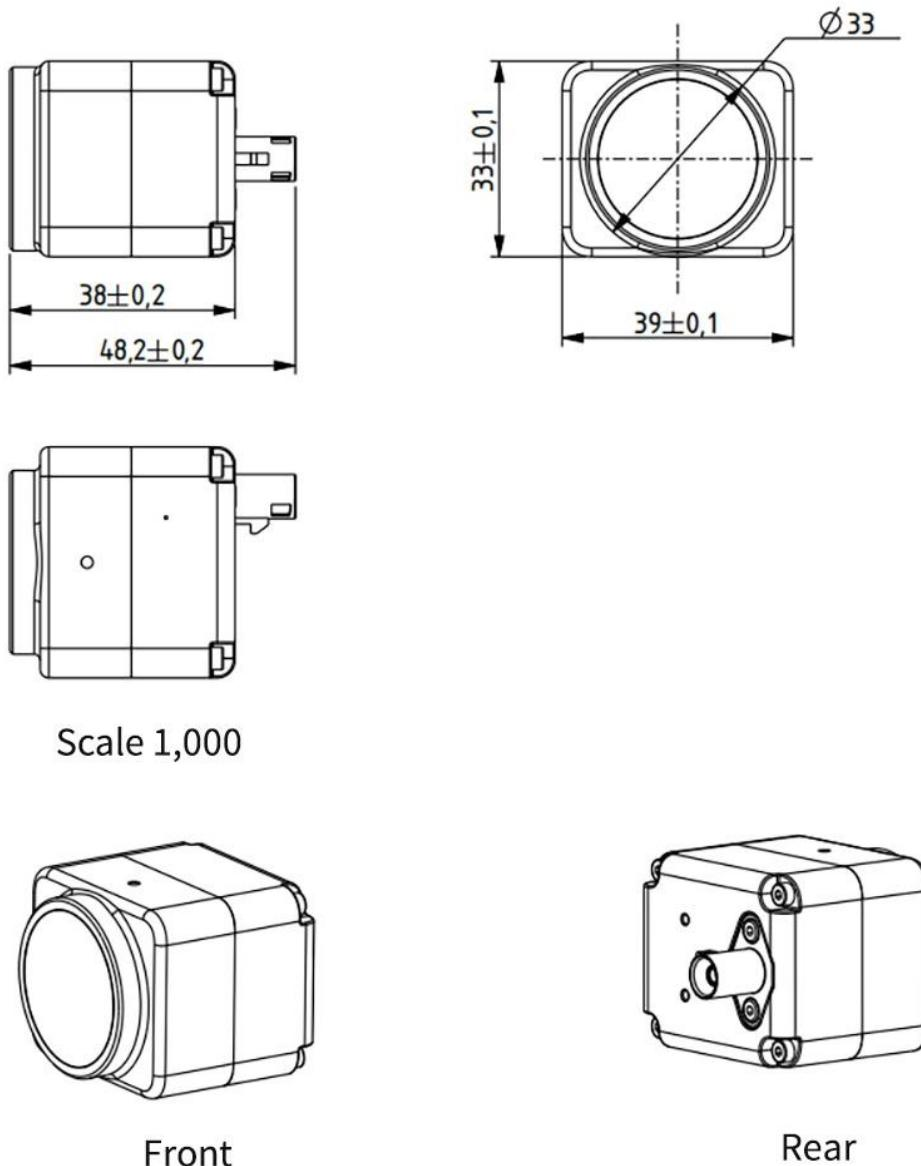

Figure 1-2 Appearance of Pilot384RFF91G
(2) The Pilot384RFF91G series product consists of a front shell, a rear shell, and a FAKRA connector, as shown in Figure 1-2.